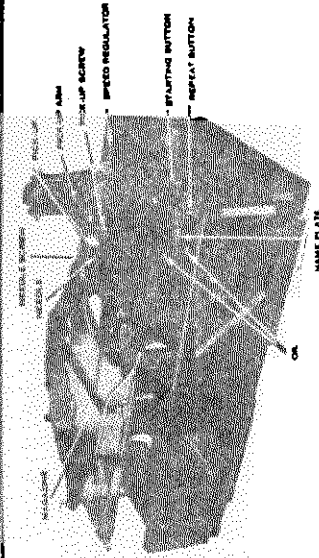
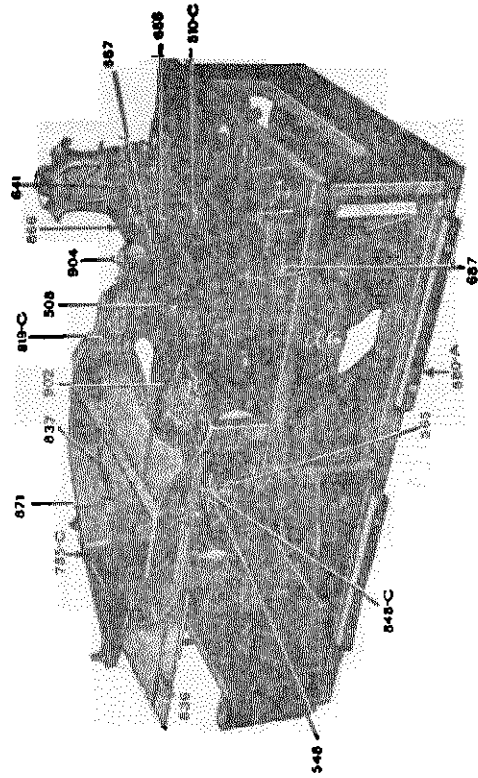
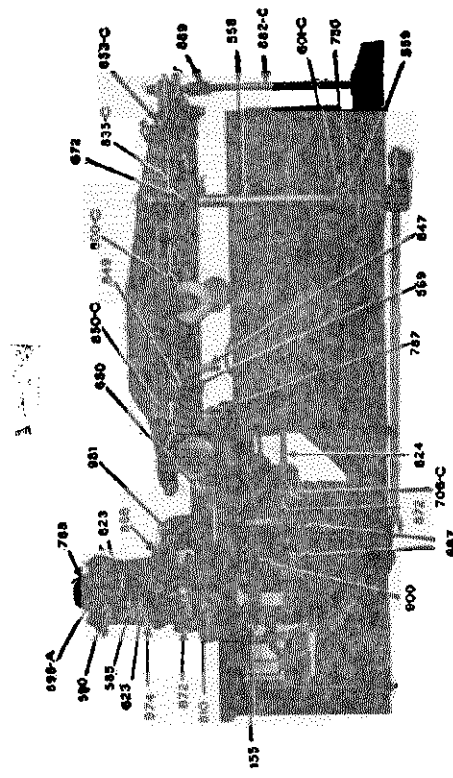
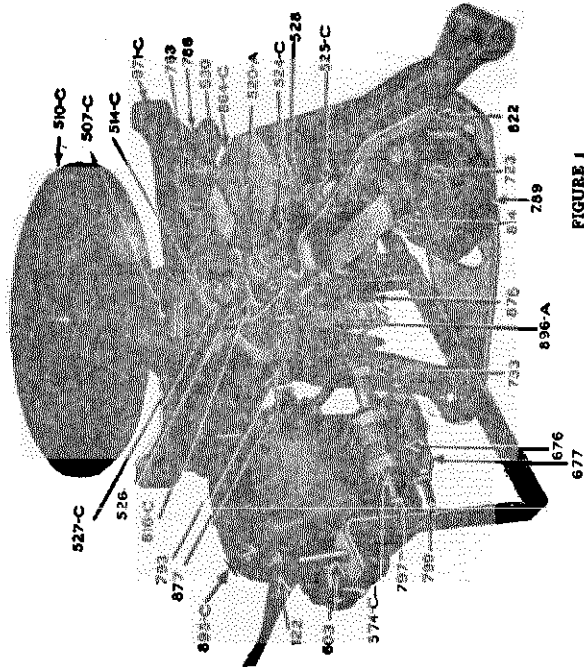

FIGURE 5
FIGURE 3
FIGURE 4
FIGURE 1
At the completion of the reproduction portion of a record, the needle moves into the groove in the center of the record. The first oscillatory movement of the needle on an eccentric groove record, or the feed-in movement on a spiral groove record trips Trip Lever 814, figure 1.
Dog 813 figure 2 for eccentric groove records and Spiral Trip Dog 533 for spiral groove records is attached to Pick-up Arm Lever 811 by means of Adjusting Stud 860 and Adjustment for Pick-up Lever 812. Pick-up Arm Lever 811 is attached to Pick-up Unit 904, figure 3 by means of Yoke 867 and Pick-up Arm 866 which is connected to Bracket 810 figure 4, onto which Pick-up Arm Lever 811, figure 3 is attached by means of two screws 155 figure 4. This whole device is allowed to swing from right to left due to its attachment to Standard 788 by the Dog Point Set Screws 823 which fit into the Bearing in Bracket 810.
When Trip Lever 814 figure 1 is tripped, it allows Throwout Lever 822 to drop, and this causes Clutch Lever 816-C to push Clutch 826 into the Pins of Clutch, Collar 527-C which is revolving; acting through Worm Gear 514-C which is driven by the Worm in Drive Shaft 793 connected to Motor by means of Drive Spring 877. The connecting of this Clutch causes worm shaft 524-C which is meshed with Cam Worm Gear 528-C to cause Cam 789 to revolve and lower the Turntable to the "swing back" elevation. This is accomplished by Lift Lever 817 figure 2 which is operated by Cam 789 figure 1 acting on the bottom of Turntable Shaft 607-C, through Turntable Lift 516 figure 2 and Adjustment 618 to which the Turntable Shaft is attached.
Turntable 510-C figure 1 is driven in a clockwise motion by means of Worm Gear 583-C (not shown), which is meshed with Drive Shaft 793. This Worm Gear is provided with inside lugs which fit into the grooves in Turntable Shaft
Returning to the action of Cam 789 figure 1 as it rotates further, Turntable 510-C* drops to the discard position, allowing the record to come in contact with Discard Rubber 660 figure 4. This raises the record above Receiving Stud 508 figure 3 and the rotation of Turntable 510-C* then causes the record to be discarded into the Receiving Compartment.
Before the Cam 789 figure 1 allows the Turntable to be moved into the discard elevation, and while the Turntable is still in the "swing back" elevation, the Pick-up Unit is swung away from the record by means of Index Lever 815 figure 2 which is connected to the Pick-up Arm through Pick-up Arm Lever 811. The inner end of the slot in Index Lever 815 acts on Pin 763 figure 1 that revolves with the Cam in a clockwise motion. It is through this means that the Pick-up is swung away from the record.
When Cam 789 figure 1 starts to revolve, Eject Arm 790 figure 2 also starts to revolve as it is driven by Dog 822. Roller 662 attached to Eject Arm 790, travels in the slot in Drive Lever 550 and causes it to move from the left to right, which moves Eject Slide 835-C and brings the center of the record over Receiving Pin 508 figure 3 in Turntable 510-C*. This motion is caused by Drive Lever 560 figure 2 acting through Link 852 attached to Lever 865 which is pinned to Shaft 558 connected to Top Lever 863-C which acts on Transverse Lever 854-C through Link 866. The Transverse Lever is connected to the twelve inch record Regulating Lever 869 which is fastened to Eject Slide 835-C by means of the Stud in the "I" shaped slot. This Stud remains in the "I" end of Lever
869 and allows Slide 835-C to place a ten inch record in the proper position over Receiving Stud 508 figure 3.
In case a twelve inch record is on the Slide, Centering Lever 860-C figure 4 is pushed out by the record to a position where its tail end trips the twelve inch Regulating Lever 859 figure 2. Eject Slide 835-C moves forward, causing the Stud to leave the "I" end of the slot in Lever 859 allowing Eject Slide 835-C to travel just far enough to place a twelve inch record over Receiving Stud 508 figure 3.
Ten or twelve inch records can be used without discrimination. The engagement of the needle on ten or twelve inch records is controlled by Engaging Regulator Weight 872 figure 4 acting on Cable 900 which is attached to Index Lever 815 figure 2. When the Weight is allowed to act, Index Lever 815 is pulled over and the long slot engages on Pin 763 figure 1 causing the Pick-up Unit to swing into the proper place to engage on a 12" record. If Regulator Weight 872 figure 4 is not allowed to act, Index Lever 815 figure 2 is carried over by means of Drag Link 530 figure 1 so that the short notch engages on Pin 783 and the needle engages at the proper place to start a 10" record. Whether or not the Weight 872 figure 4 is allowed to act depends on Shaft 824 which, when under Weight 872, keeps the Weight from acting. Shaft 824 is controlled by Engaging Regulator Arm 787.
When a 12" record is fed out, Centering Lever 850-C figure 4 is pushed out. The Finger end of carries Arm 787 out with it, swinging end of Shaft 824 from under Weight 872, allowing 872 to act. Shaft 824 will remain in this position until a 10" record is fed out of the Hopper. Thus, a 12" record may be repeated on the Turntable as many times as desired. When a 10" record is fed out of the Hopper, Eject Slide 835-C figure 2 goes out further over the Turntable, allowing Pin 887 to come in contact with Arm 787 causing it to move so that Shaft 824
Again returning to the motion of Cam 789 figure 1 further rotation of this Cam causes the Turntable to rise to receiving elevation, in time to receive the record which has been moved to the positions just described. The Turntable remains in this position while the Cam rotates further, allowing Roller 662 figure 2 which is attached to Eject Arm 790, to travel in the slot in Drive Lever 560 and return Eject Slide 835-C to its original position. As soon as Eject Slide 835-C has returned to this position, Cam 789 figure 1 has revolved to a position where it allows the Turntable to drop to the "swing in" elevation.
At this time Pin 763 figure 1 has revolved far enough to connect with either the ten or twelve inch notch in Index Lever 815 figure 2. Its further revolution causes the Pick-up to swing in over the record so the Needle rests on the smooth part of the record as the Turntable is raised to reproducing elevation by means of Cam 789 figure 1. Regulating Weight Lever 872 figure 4 on Standard 788 now causes the Pick-up to move over from the smooth part of the record to the first reproducing groove. Reproduction of the record begins at once.
When the Pick-up Unit first swings away from the record, Pick-up Arm Lever 811 figure 2 passes under the tail of Throwout Lever 822 figure 1, causing it to rise to a position where the notch in Trip Lever 814 is allowed to enter its proper place under the lug in Throw-out Lever 822, holding Throwout Lever 822 in this
position after the Pick-up Arm Lever 811 *figure 2* no longer supports it. When the Throwout Lever is raised to this position, a spring tension is created which pulls on Clutch Lever 816-C *figure 1* attempting to pull back and open Clutch 826 but Clutch Lever 816-C is held in the engaging position by means of Control Disc 864-C until the Cam has completed its entire revolution when a notch in the Control Disc allows the Clutch Lever to follow the urge of the spring and disengage the Clutch.
In case it is desired to play the same record over, the repeat Button *figure 5* is moved to the left. This moves Repeat Lever 806 *figure 2* causing it to press against Drive Dog 822 causing the Dog to recede and not catch on Eject Drive Arm 790. Eject Drive Arm 790 remains stationary and the Eject Slide does not move. The Cam revolves and the Turntable goes through all of the elevating positions except the discard elevation. Eject Arm 790 does not allow Roller 845 to drop to the discard elevation in Cam 789 *figure 1*, thus the record will be repeated until the Repeat Lever is moved to the right.
When Eject Slide 835-C *figure 4* comes forward, the bottom record is caught between the "Y" shaped plates 836 and 837 *figure 3* which brings the bottom record forward with the Slide. The other records slide over the top of these "Y" shaped plates and remain in the Hopper. Only the bottom record is allowed to come out of the Hopper onto the Turntable. Other records are prevented from coming out by means of the two Admitters 819-C which are devised so they gauge themselves according to the thickness of the record. Thick, thin or warped records are fed out through the action of the admitters without injury to the records or mechanism. The admitters are held down against the record by means of springs and are adjusted by Screws 902. Back Stops 871 prevent records from sliding too far back in Hopper.
If a ten inch record is on the bottom and is not in the center, it is forced into the center by the two Centering Levers 850-C *figure 4* and 848-C *figure 3* which are held in position under tension by Springs 569 *figure 1* and 565 *figure 2*. These Springs are right and left hand and are attached to bushings in Studs, which have right and left hand threads and have a tendency to keep the spring from unscrewing the studs and nuts which hold them.
These Springs hold the Centering Lever against the Stop Pins which are set so that they hold the Centering Levers just the right distance to allow a 10" record to pass through with a slight amount of tension. In case a 12" record is on the bottom, these Springs are allowed to open up and the Centering Lever 850-C *figure 4* acts to trip the mechanism as described under the paragraph about Slide Movement for 12" records.
In starting or rejecting records, the Starting Button *figure 5* is pressed. When this Button is pressed slightly, it causes the contacts in switch 897-A *figure 2* to be spread apart which changes the fields in the motor from a series connection to a parallel connection for a greater starting torque. Pressing down further causes Lever 662 *figure 2* to act against Throwout Lever Trip 814 and trip mechanism which discards the record. This is the same action as though it were tripped with the Dogs 813 or 814.
Clutch Switch 895-A on Bracket 876 *figure 1* is operated by Clutch Lever 816-C by means of a fibre switch Opener, the purpose of this switch is to allow switch 895-A *figure 4* to be opened when the Clutch is engaged and the Cam is in motion. This carries the current whenever Clutch is in motion and the Pick-up Unit is not resting on a Record.
Pick-up Switch 898-A *figure 4* is attached to the back of Standard 788. When the Pick-up is not resting on a record, the Pick-up Arm drops down, swiveling at Trunion Pin 641, *figure 3*. This allows the Brake Shoe on Pick-up Arm 866 to rise and press against Cork Insert 623 *figure 4* which is in the Brake Adjustment 686. This retards the Swinging action of the Pick-up and allows it to move only when forced by Index Lever 816 *figure 2*. This Brake Adjustment 686 can be regulated to bring the Pick-up to the height desired and is locked in place by a nut.
Through the center of Brake Adjustment 686 is a Fibre Rod 590 *figure 4* which also rests on Brake Shoe 974 and is raised whenever the Brake is closed. The upper end of this acts on the Contact Spring in Switch 898-A and causes it to open the Switch and break the entire circuit, acting the same as the Clutch Switch in parallel with it. With both of these switches open, the power supply is entirely cut off. Also, when this switch is open a contact is formed with the upper part of the Switch which cuts out Speed Regulating Rheostat No. 544 *figure 2* and allows the full power to be used while the Cam is in the operating cycle.
upper side of the motor board *figure 5* are two (2) pipe plugs marked "OIL." Remove these plugs and inject a quantity of oil in the tubes under them. This lubricates both armature shaft bearings. The wick type oil wells used on the bearings keep the bearings well lubricated for a six (6) months period of normal operation.
consistency of vaseline, mixed with graphite if possible. In the main body casting, housing the turntable shaft and worm gears two (2) pipe (2) pipe plugs 687 *figure 4* marked "Grease." Remove these Plugs and inject a small quantity of grease in the openings.
ADMITTERS 819-C. *FIGURE 3.* Use Adjusting Screw 902. Turning this screw in a clockwise direction raises the end of the admitter higher. The height of the admitter should be just enough to touch a record on the Eject Slide 835-C *figure 2* when the slide is out.
ALIGNMENT OF MOTOR DRIVE SPRING 877. *FIGURE 1 WITH DRIVE SHAFT 793.* Two adjustments are provided for this purpose. One for aligning the spring if it is horizontally off center with the drive shaft and the other for alignment if the spring is vertically off center.
To align the spring if horizontally off center loosen the four collars (see 574-C, *figure 1*) on Screw Studs 797. This will then allow either side of Motor 895-C to be moved back or forth on the studs as the case demands. To align the spring if off center vertically, the Hex. nut on Stud 799 should be loosened or tightened depending upon whether the motor is to be tipped up or down.
Eject Slide should carry out a 10 inch Victor record to a distance where the tip of Receiving Stud 508, *figure 3,* enters the hole in the record at the front side of the hole. If a 10" Columbia record is used to make this adjustment, the stud should enter the hole in the record at the rear side.
END PLAY IN CAM WORM SHAFT 524-C. *FIGURE 1.* Use Adjusting Screw 525-C. The end play in this shaft should be just enough to be detected when shaft is moved back and forth by hand. If end play is too great, the clutch will remain engaged and the mechanism will not automatically stop when the last record has been reproduced.